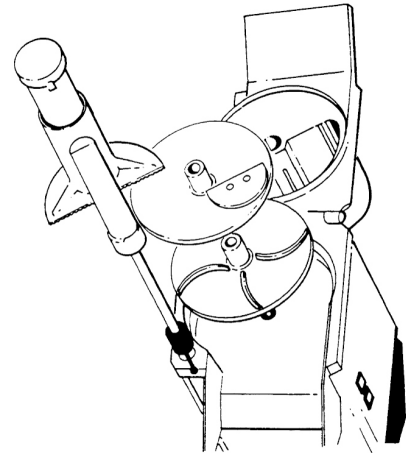
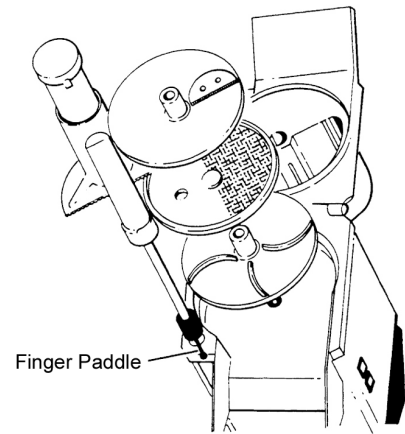

Fig. 2
Fig. 3
- Operations With A Single Plate (Fig. 2) 5
Proper assembly of the FP100, including selection of the appropriate cutters, is necessary for correct operation of the food processor (Fig. 2 & Fig. 3). Refer to the Cutting Tool Guide for sizes of cutters and refer to the appropriate operation instructions.
OPERATIONS WITH A SINGLE PLATE (FIG. 2)
OPERATIONS WITH TWO PLATES (FIG. 3)